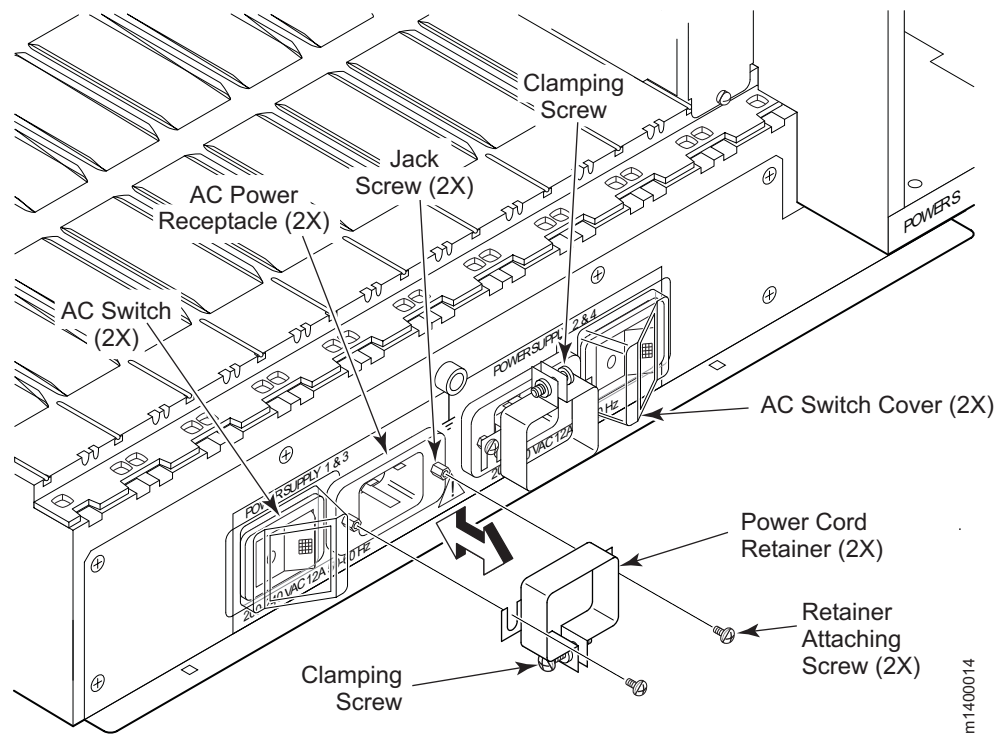

Figure 15. AC panel and power cord retainers
2. Verify that the ac switch covers are installed over the ac switches. These clear plastic covers fit over the ac switches with their edges tucked underneath the outlet covers, preventing the ac switches from being powered on or off accidentally (see Figure 15 on page 11).
3. Connect the ac power cord retainers to the chassis: orient a retainer against the ac panel as shown in Figure 15, place the retainer tabs under the two jack screws on either side of the power receptacle, and tighten the screws. Repeat for the other retainer (note that the power cord retainers are oriented in the same direction as the power receptacles).